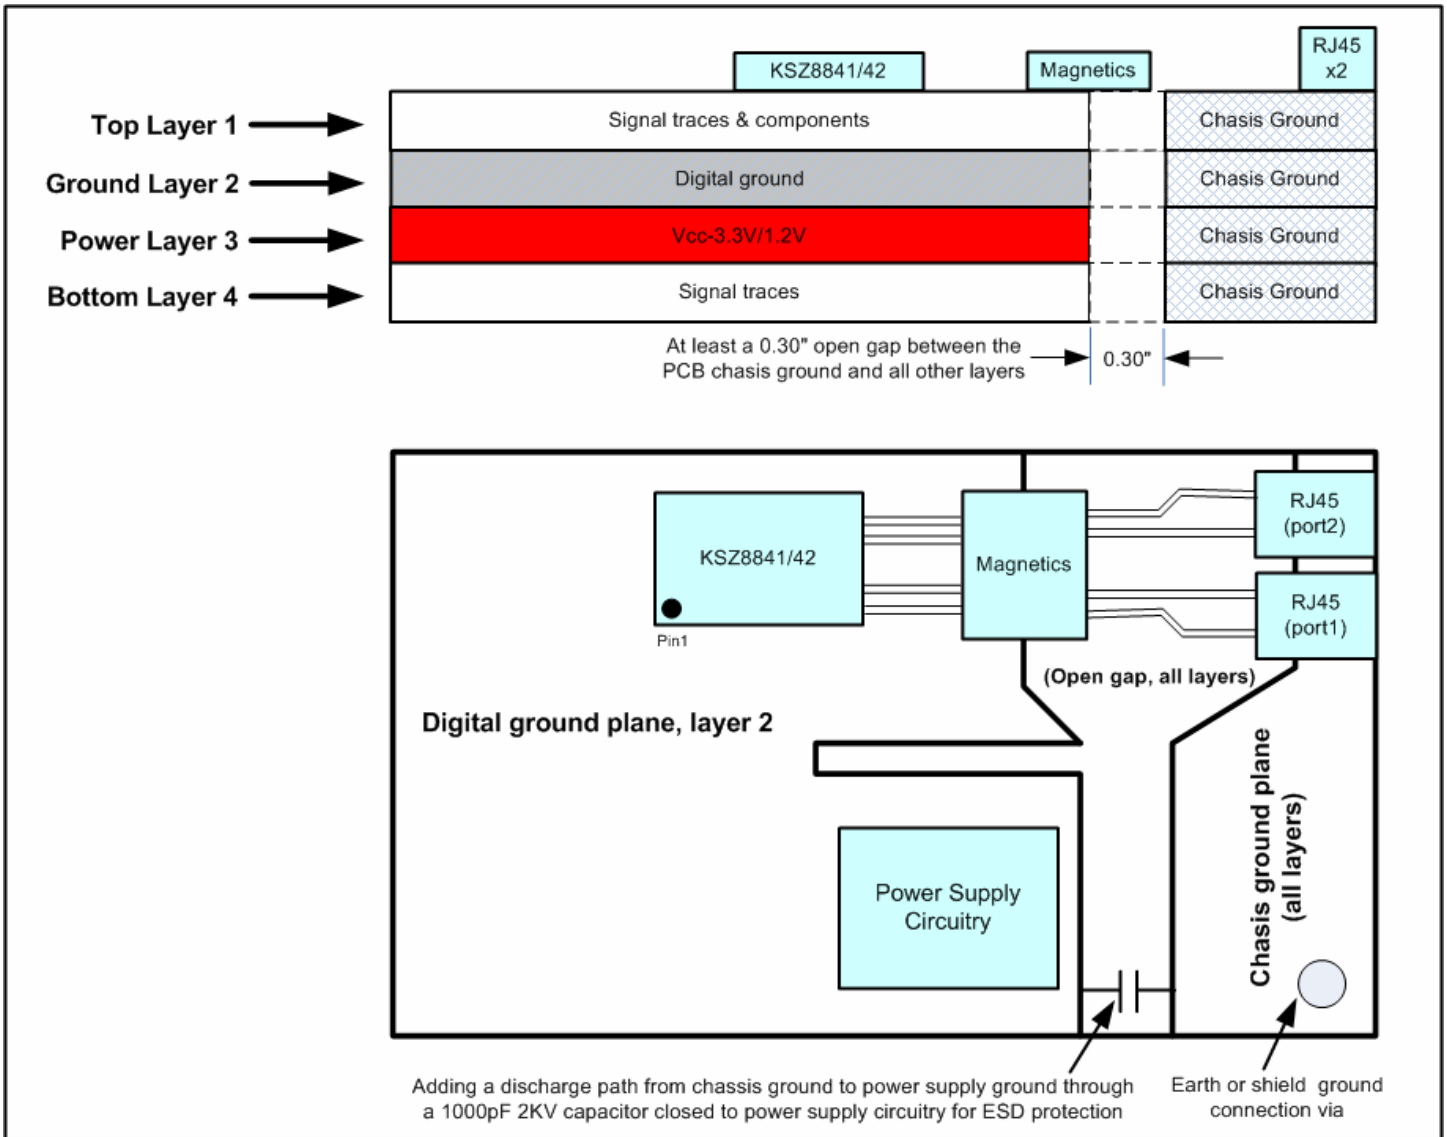

Figure 1. 4-Layer Partition and Group Plane Layout
Micrel strongly recommends using at least 4-layer PCB for all high speed Ethernet LAN design since the printed circuit board cost is proportional to the number of layers, and to the board surface area. A typical 4-layer PCB stack-up uses high-speed differential and critical signal traces without vias to connect chips located on the top (component side) layer. The second layer is a solid and contiguous ground plane, with a solid power plane layer on layer 3, and a bottom signal traces layer on layer 4. The 4 layers partition and ground layer are shown in Figure 1.
1. Use a single ground plane approach with chassis ground plane (all layers) separated from the digital ground plane to reduce EMI as well as to improve the ESD protection, as shown in Figure 1.